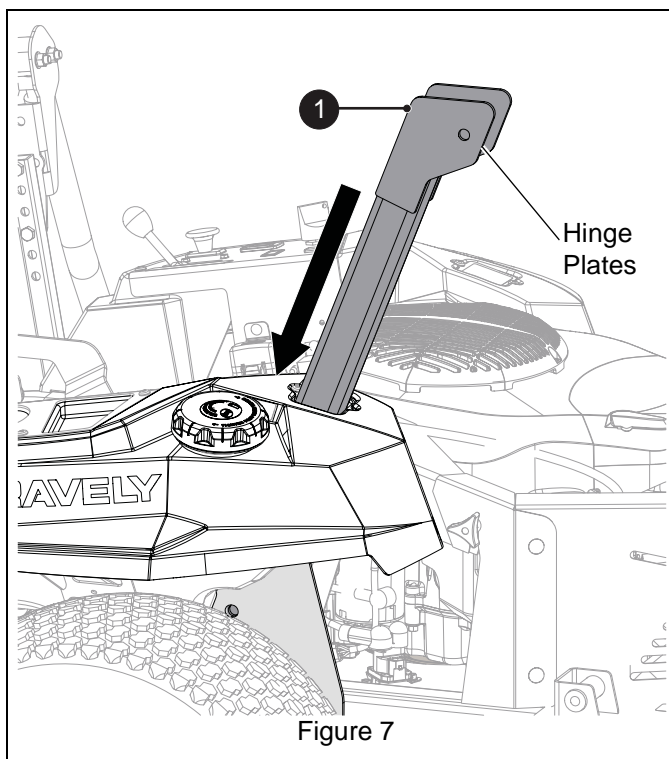

Figure 7
9. Insert bagger support (item 1) through the opening and between left support bracket and frame. Ensure that hinge plates are positioned facing the rear. See Figure 7.